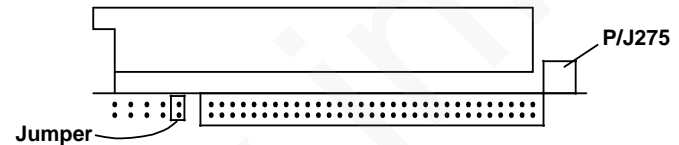

Figure 1. Disk Drive Jumper Location (End View of Disk Drive)
1. Ensure the jumper on the disk drive is in the position shown in Figure 1.